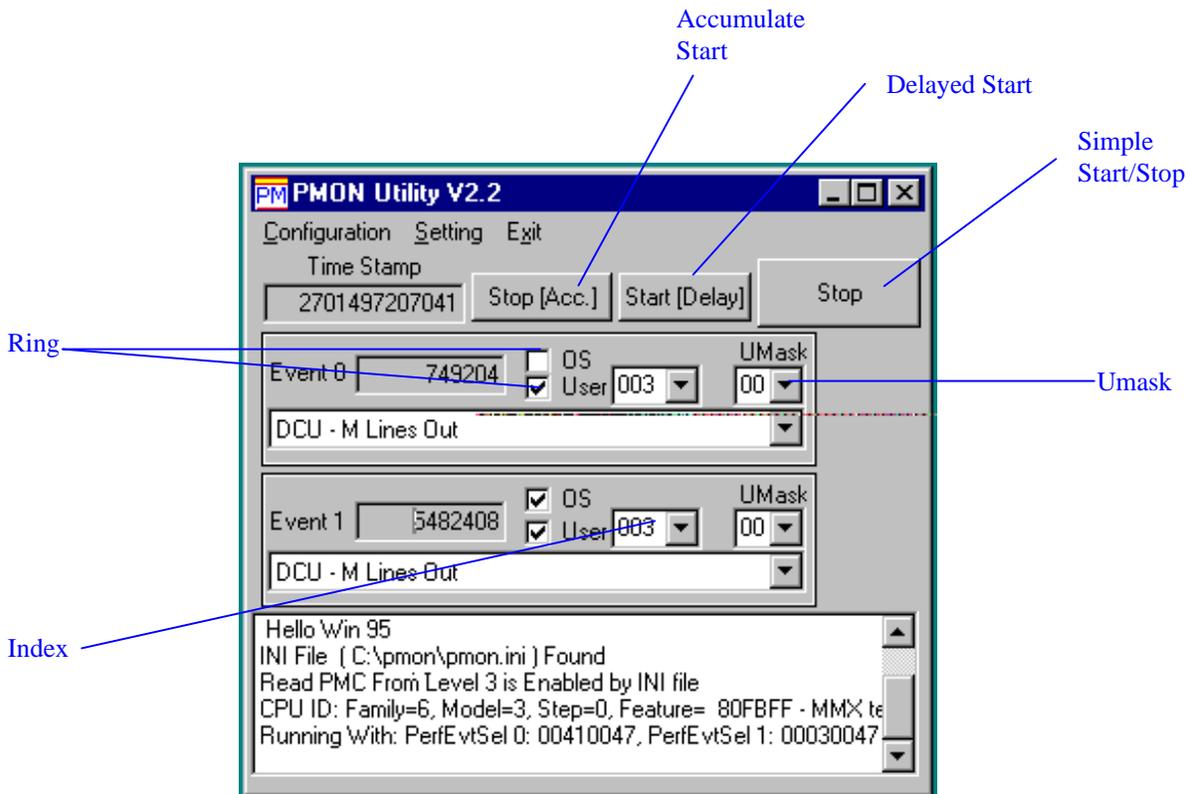

Figure 3
The variables used in event selection are (refer to Figure 3):
Refer to Figure 3 for the following:
- **Stop message at the notification window:** Refer to Figure 3. When counters are stopped the Pmon utility displays a summary of the last run in the notification window. The information provided is: